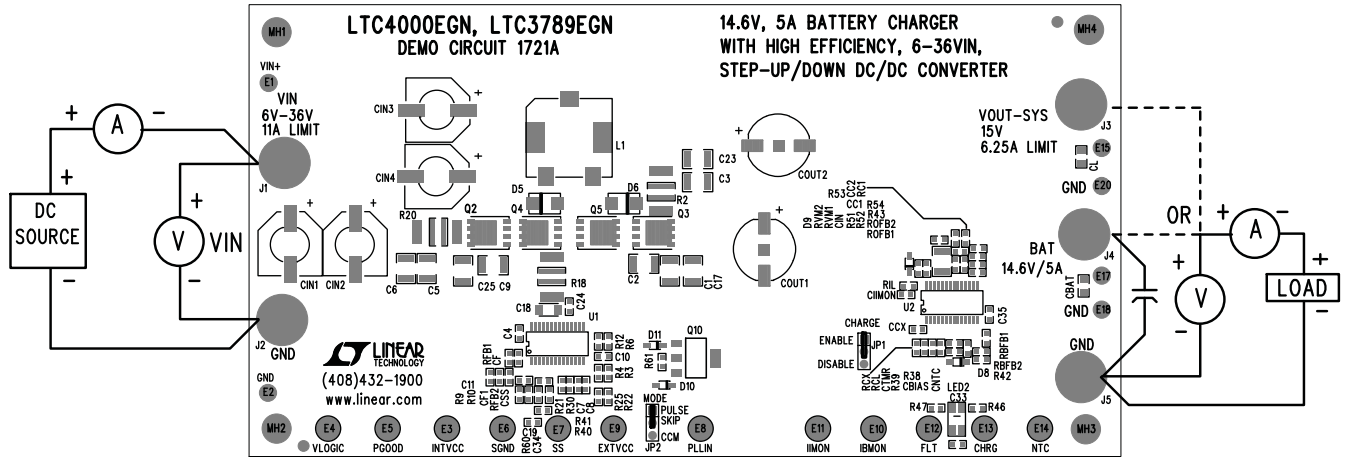

Figure 1. Proper Measurement Equipment Setup
Demonstration circuit 1721 is easy to set up to evaluate the performance of the LTC4000/LTC3789. Refer to Figure 1 for proper measurement equipment setup and follow the procedure below:
**NOTE:** When measuring the output voltage ripple, care must be taken to avoid a long ground lead on the oscilloscope probe. Measure the output voltage ripple by touching the probe tip and ground ring directly across the last output capacitor as shown in Figure 1.
- b. If efficiency measurements are desired, refer to Figure 1 for test setup.